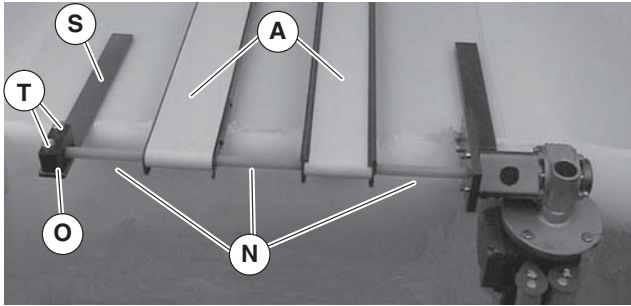

Figure 9
- Remove screws (Figure 9, item T) and remove bearing block (O).
- Slide hex shaft through conveyors (Figure 9, item A) and shaft cover pieces (N) and into flex coupling.
15. Attach bearing block (Figure 9, item O) to bearing support bar (S) with screws (T). Tighten screws (T) to 35 ft-lb (45.5 Nm).